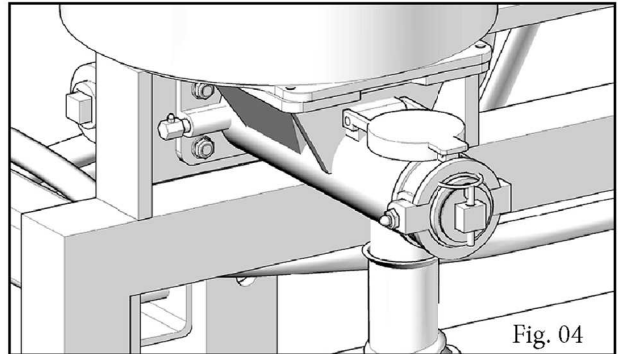

Fig. 04
- * Keep the tables (box) of fertilizer Figure 04 always greased.;